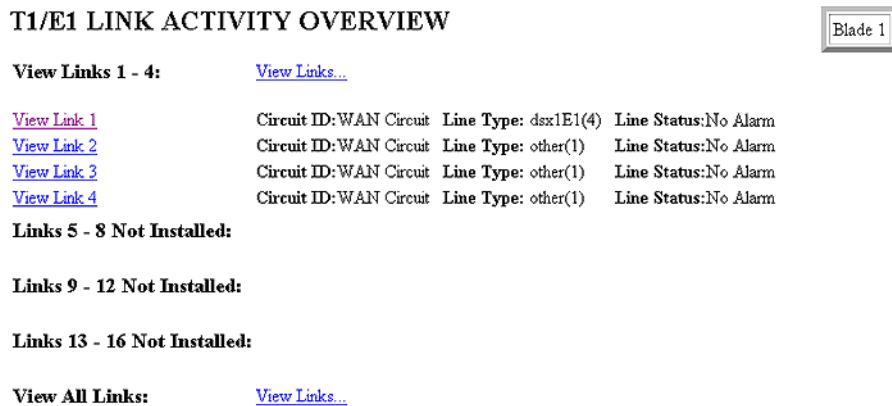

Figure 43. T1/E1 Link Activity Overview page
1. On the *3096RC Configuration Menu*, click the *T1/E1 Link* hyperlink to open the T1/E1 LINK ACTIVITY OVERVIEW page (see figure 43).